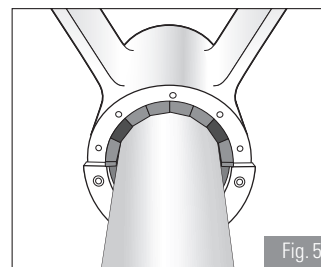

Fig. 5
1. Untighten socket head cap screws and remove compression head halves (see Fig.5). Insert coarse threaded eyebolt or self-expanding bolt in the hole of one of the upper staves (either rubber locking or DMX®-LSS). Withdraw the first stave with the help of a pulley.